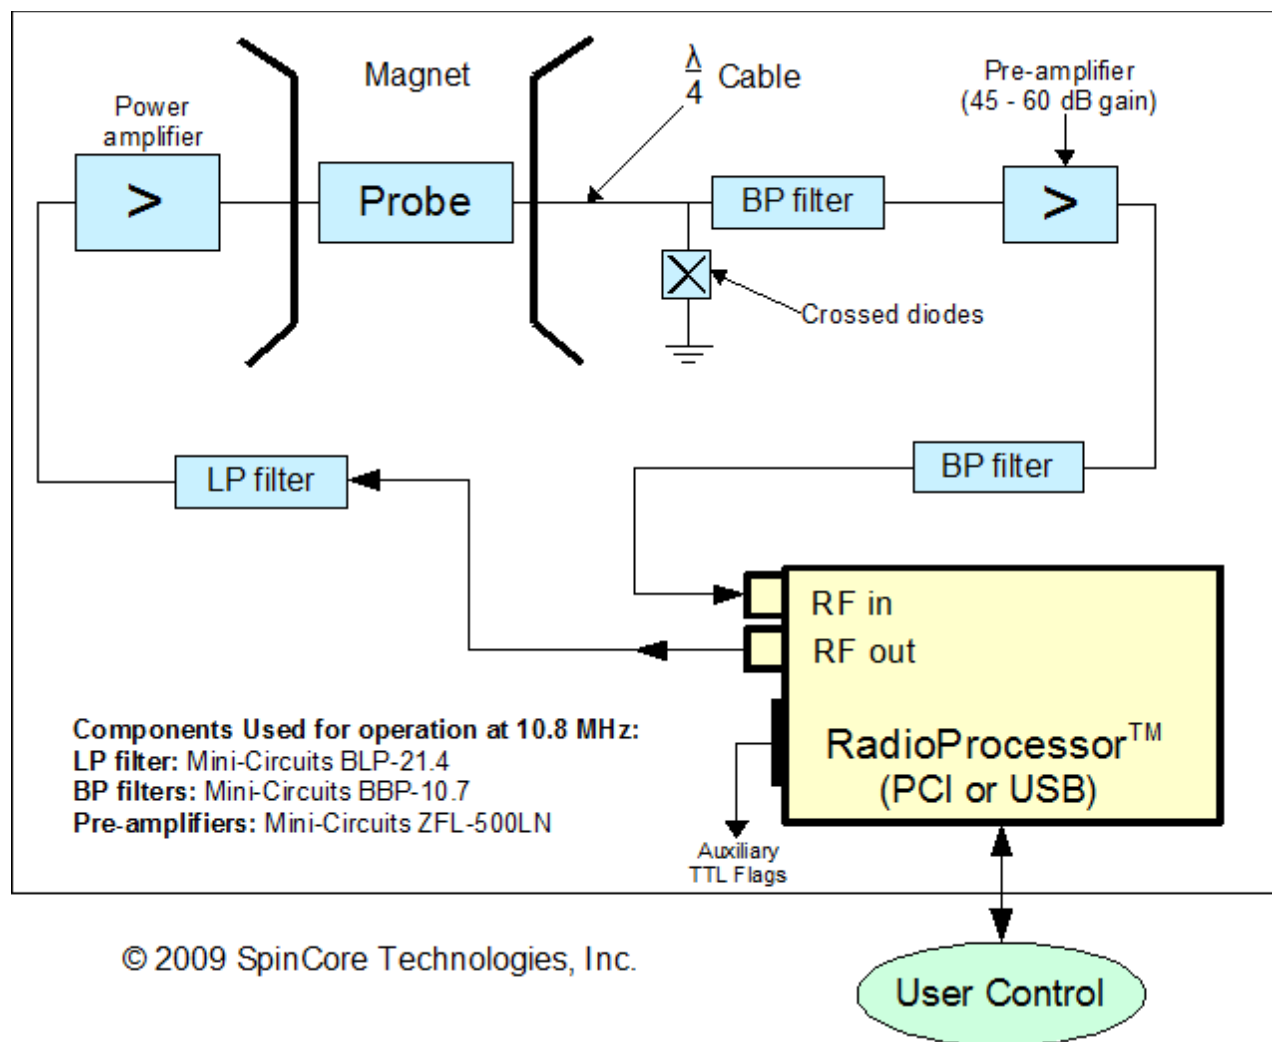

Figure 2: Typical application of the RadioProcessor. By adding a power amplifier and a small-signal pre-amplifier, a complete NMR/NQR system can be built.
A major application for the RadioProcessor is to serve as an advanced digital NMR/NQR spectrometer. Using the RadioProcessor, a complete NMR/NQR system can be constructed with the addition of a power amplifier and a pre-amplifier. An example setup is shown below in Figure 2.
2. Connect the RadioProcessor as shown in Figure 2 (page 7) of this manual. Note that all components shown in Figure 2 may be purchased from SpinCore Technologies.